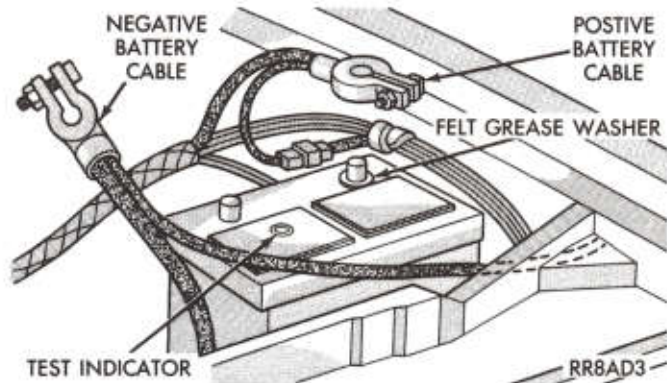

Fig. 10—Battery Cables Disconnected
(1) If battery is to remain in vehicle, disconnect cables at battery (Fig. 10), negative cable first to prevent electrical system damage.
(2) Thoroughly clean battery. Refer to "battery visual inspection".
(3) If green dot is visible and vehicle has not been cranked recently for an extended period of time, do not charge battery.
(4) Do not charge battery if hydrometer (test indicator) is clear or light yellow. Replace battery.
(5) If battery feels hot 125°F (52°C), or if violent gassing or spewing of electrolyte through vent hole occurs, discontinue charging until excessive gassing stops then continue charging at a reduced charging rate.